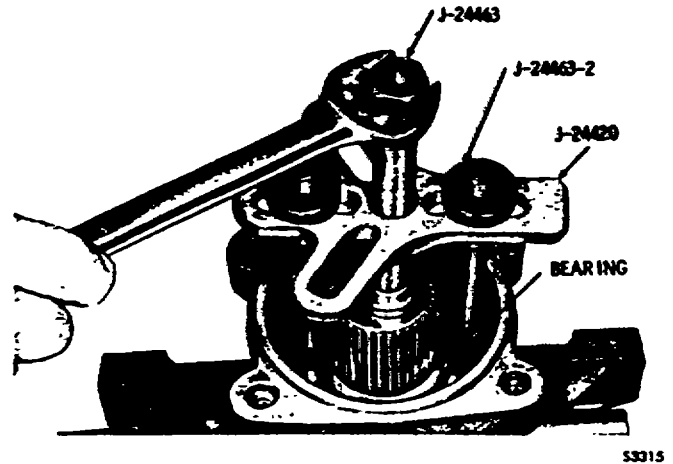

Figure 3-3. Removing output shaft rear bearing
(1) Remove internal snapping 5 (B, foldout 9) from the rear of the transmission housing.
(2) Remove output shaft bearing 4 (B, foldout 9) using tool J-24463. Place the foot of one J-24463-2 leg between two bearing balls. Twist the leg, forcing the foot under the inner and outer race of the bearing. Install the second leg 180 degree from the first leg, in the same manner. Adjust the center screw and each of the leg nuts until puller body J-24420 is perpendicular to the rear face of the transmission housing (fig. 3-3). Tighten the center screw and remove the output bearing.